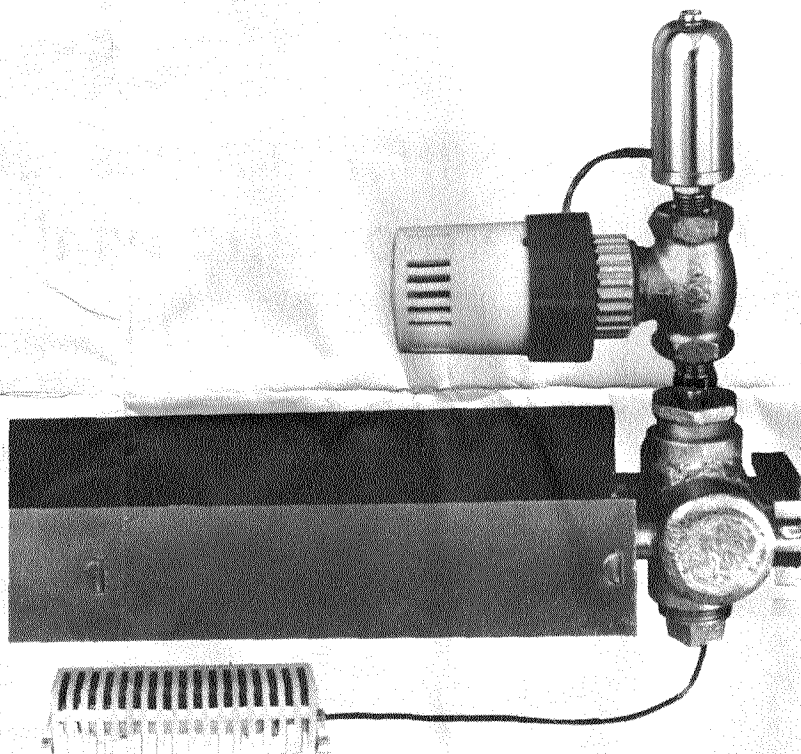

Figure 3
(3) The radiator hand valve should be fully open, preferably with the handle removed.
(4) Main air vents must be installed and must be working properly. Do not use vacuum-type air vents.
(5) It is imperative that you use the special 5-year air vent included in the package. The valve is designed for rapid but silent venting. It is also an effective vacuum breaker.
(6) Most one-pipe steam convactor applications will require using the remote sensing operator. The sensor should be mounted directly in the return air flow, under the heat exchanger element. See Fig. 3 for typical installations.